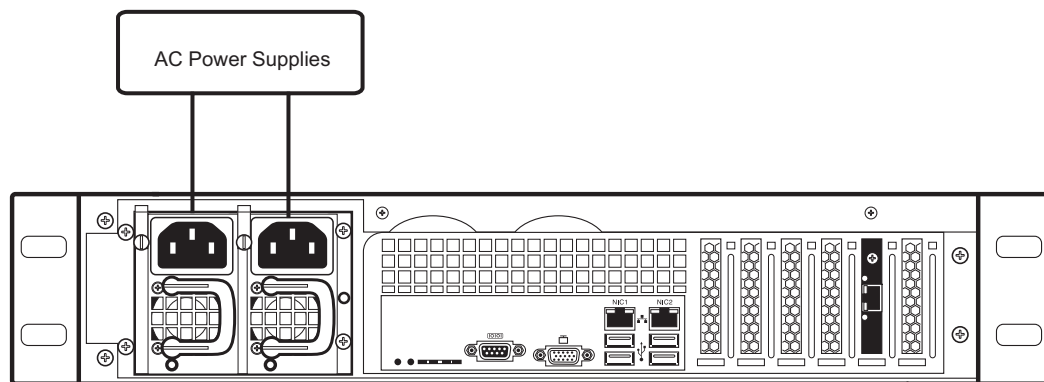

Figure 2.3 TMG7800-CTRL AC Power Connections
1. Connect the first power connector of the TMG7800-CTRL to the first power source. See Figure 2.3.